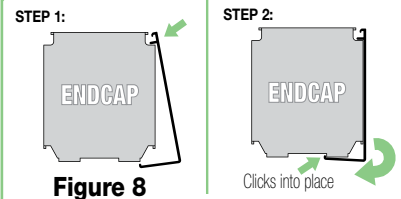

Figure 8
1. Place groove along top of fascia over endcaps, and snap into place (Fig. 8).